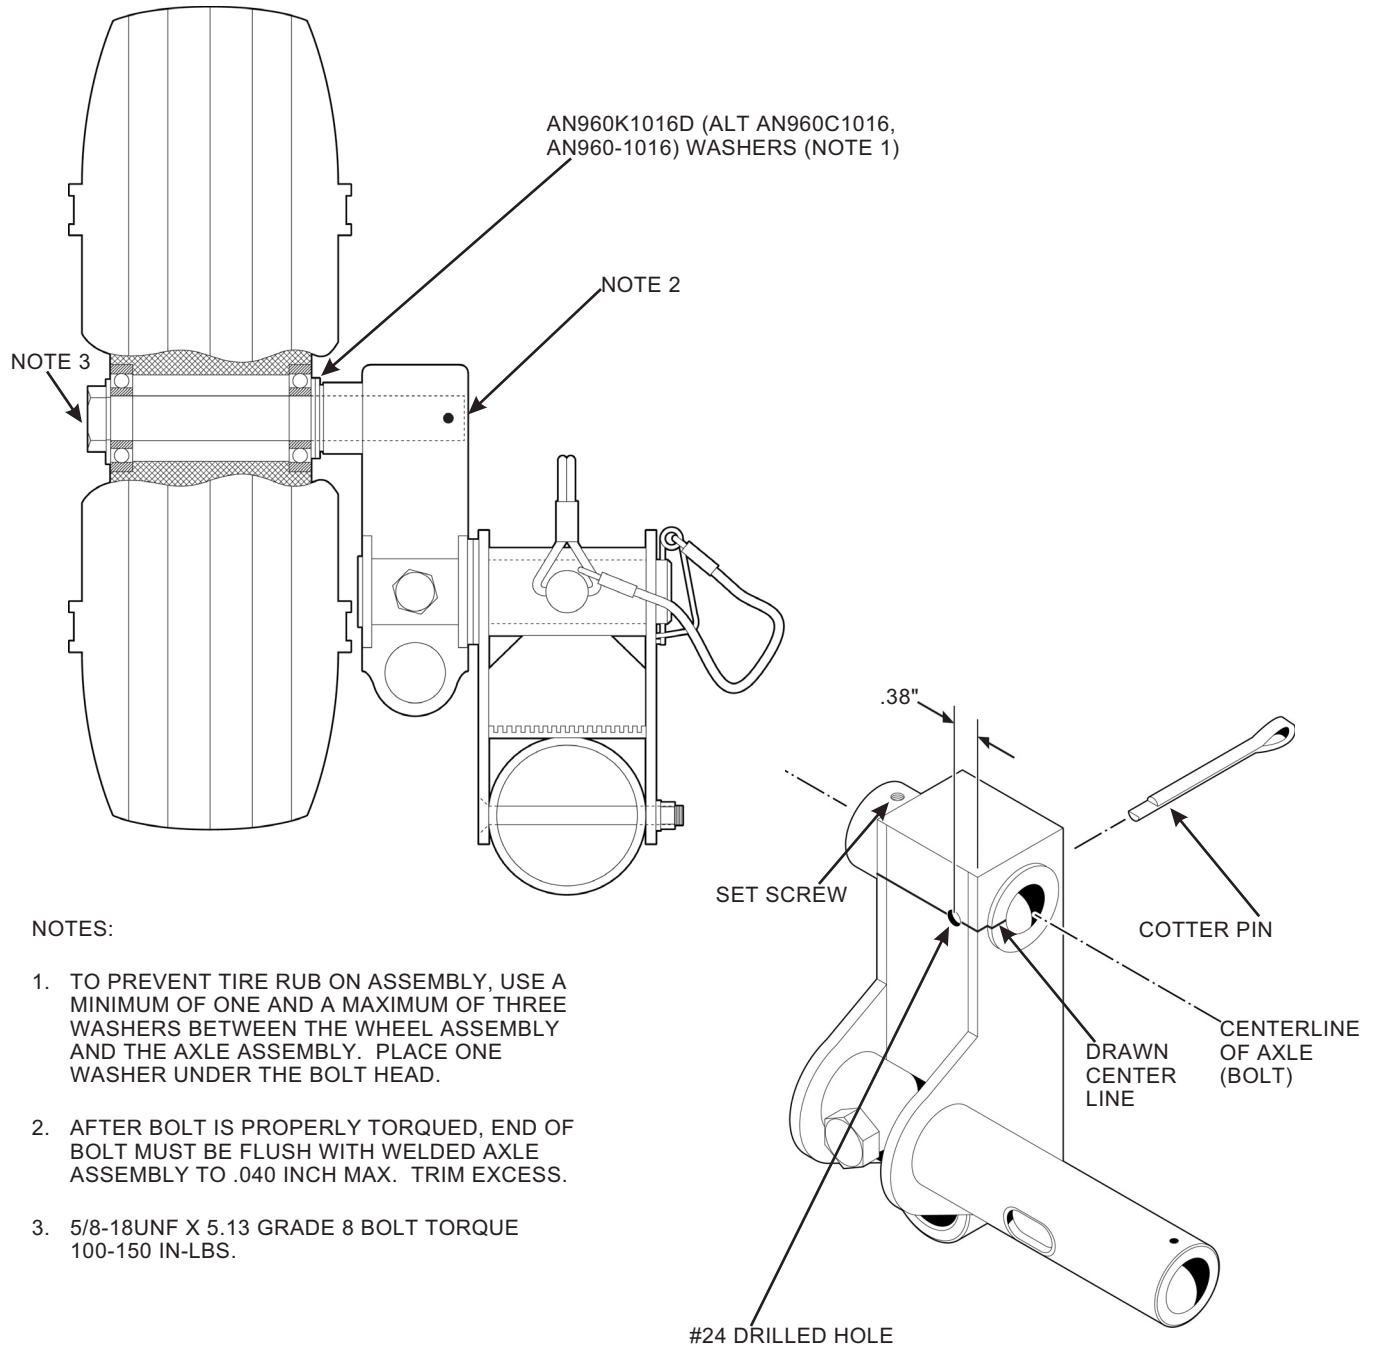

Figure DB-024-1. Ground Handling Wheel Assembly
- Ensure wheel assembly is installed on axle with a minimum of one and a maximum of 3 washers between wheel and welded axle assembly, as shown in Figure DB-024-1, to provide clearance between tire and axle assembly. Also ensure one washer is installed between bolt head and wheel assembly.
- c. Loosen set screw and torque bolt (Fig. DB-024-1, NOTE 3) to 100-150 inch pounds. End of bolt must be flush with welded axial assembly to .040 inch max. Check wheel for axial play; none allowed. If wheel has axial play, check wheel for proper shimming. Repair as necessary in accordance with HMI Appendix A. Torque set screw to 20-25 inch pounds.
- d. Draw a center line across middle of axle bolt as shown in Figure DB-024-1, continue line around the welded assembly.